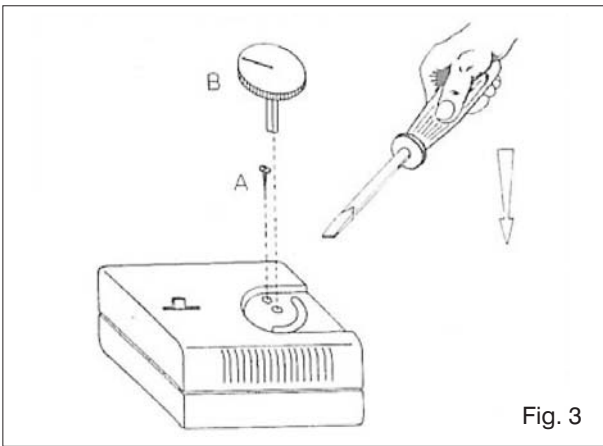

Fig. 3
- Open the thermostat as indicated in **Fig. 3**
- Using a utensil (screwdriver) remove the control knob (**Fig. 3**).